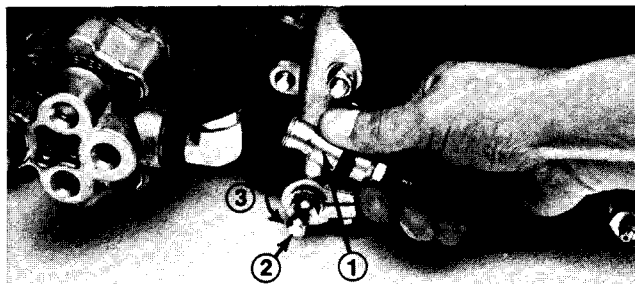

Figure 20
3. Slide the sleeve back on the ball joint and disconnect the pull arm from each side of the cutting unit (Fig. 20).